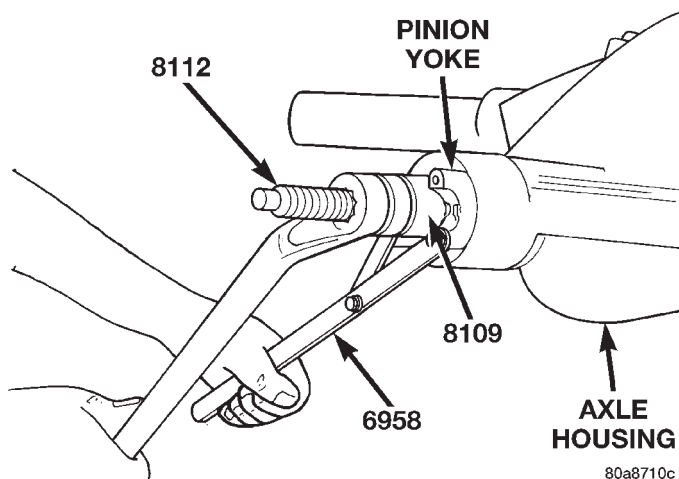

Fig. 34 Pinion Yoke Installation
(11) Install yoke with Installer Screw 8112, Cup 8109, and holder 6958 (Fig. 34).